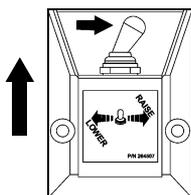
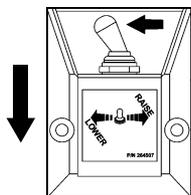

FIG. 5B
FIG. 5C
4. Raise the platform (**FIG. 5A**) by pushing the Toggle Switch to the **RAISE** position (**FIG. 5B**). If loading (or unloading) the platform, wait a second before releasing the Toggle Switch, after platform reaches bed height. If you need to lower the platform, push the Toggle Switch to the **LOWER** position (**FIG. 5C**).